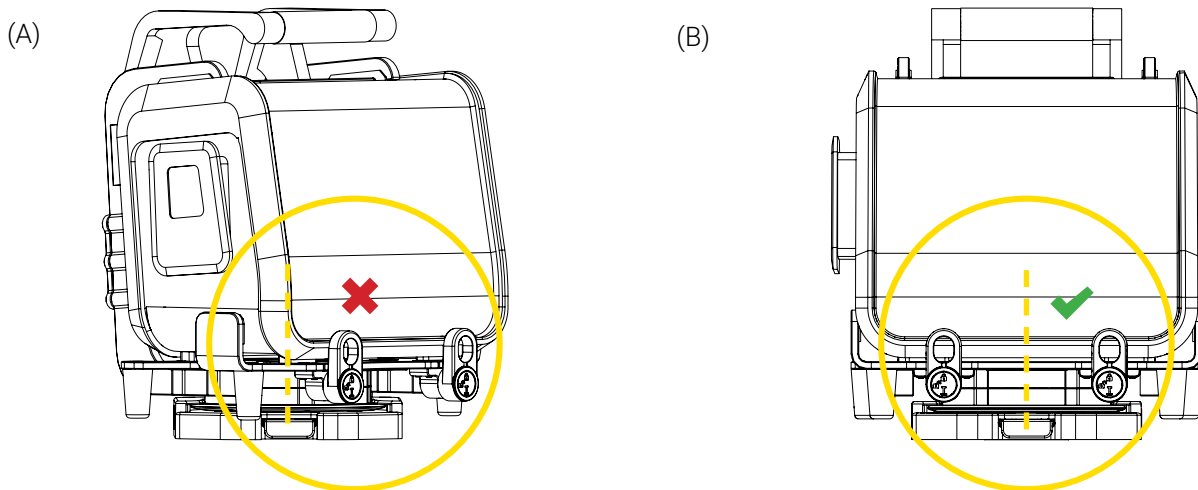

Figure 11: Removal position of the Bracket Pro Serie 60 - GR
1. Rotate the bracket until the quick release button of the Standard Surface Base is centered between the two (2) rotary locks (Figure 11).